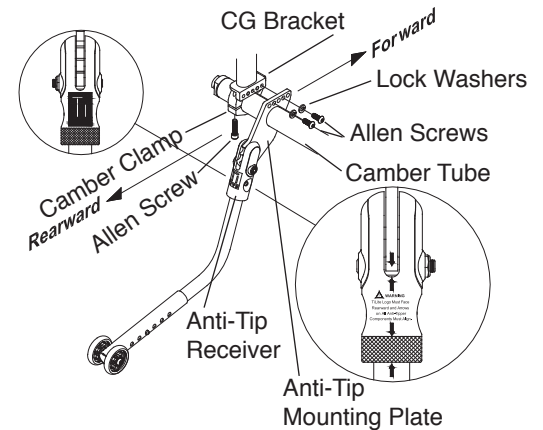

Figure 8
Do not disassemble the anti-tip mounting assembly (see Figure 8). *If you ignore this warning, you may fall, tip over or lose control of the wheelchair and seriously injure yourself or others or damage the wheelchair.*
2. Loosen the allen screws that secure the camber tube within the camber clamp. See Figure 8.
4. **⚠️ WARNING:** Make sure that the TiLite logo is visible on the rearward side of the user-friendly anti-tip receivers as shown in Figure 8 and that the white arrows are all aligned on the opposite (forward) side of the anti-tip components as shown in Figure 8. *If you ignore this warning, you may fall, tip over or lose control of the wheelchair and seriously injure yourself or others or damage the wheelchair.*
5. Reinstall the camber tube. See “Standard Camber Tube—Replacing the Camber Tube (ZR)” on pages 56-57 of the TiLite Rigid Owners Manual.